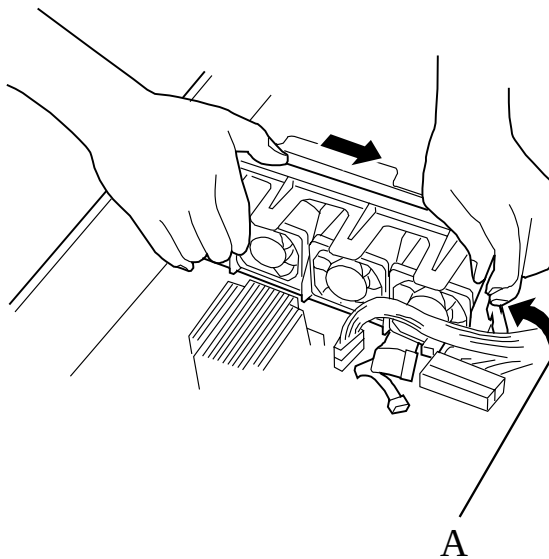

Figure 4-38. Releasing the Fan Unit
9. While pushing the release tab (Figure 4-38, A) of the fan module towards the fans, slide the fan module to the left as viewed from the front of the server.